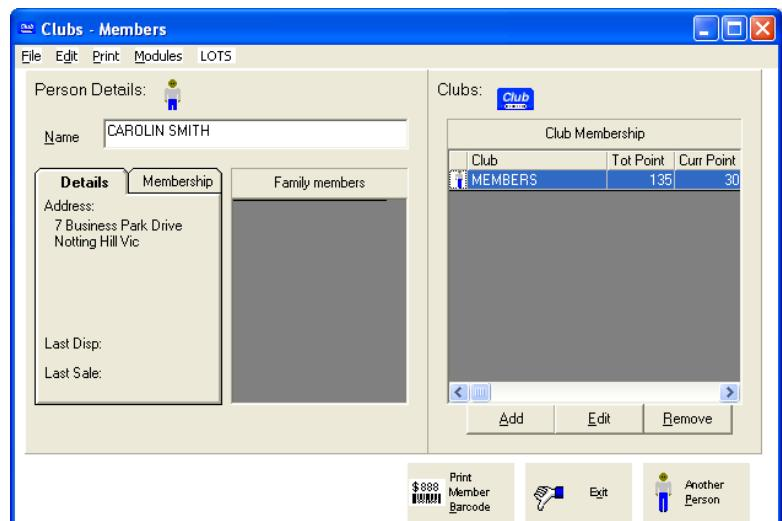

Figure 382
- When the person has been selected details of any existing club membership is displayed (see Figure 382).